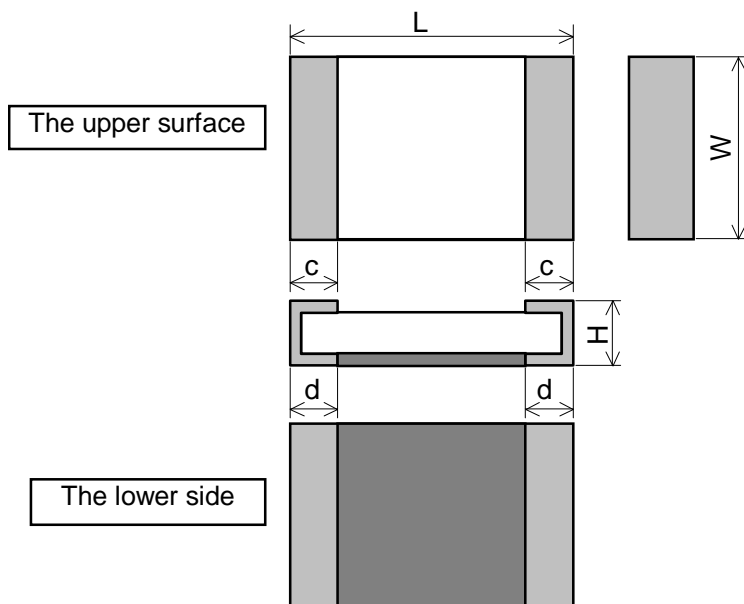

Figure-2
5.1 The resistor shall be of the design and physical dimensions in accordance with Figure-2 and Table-4.